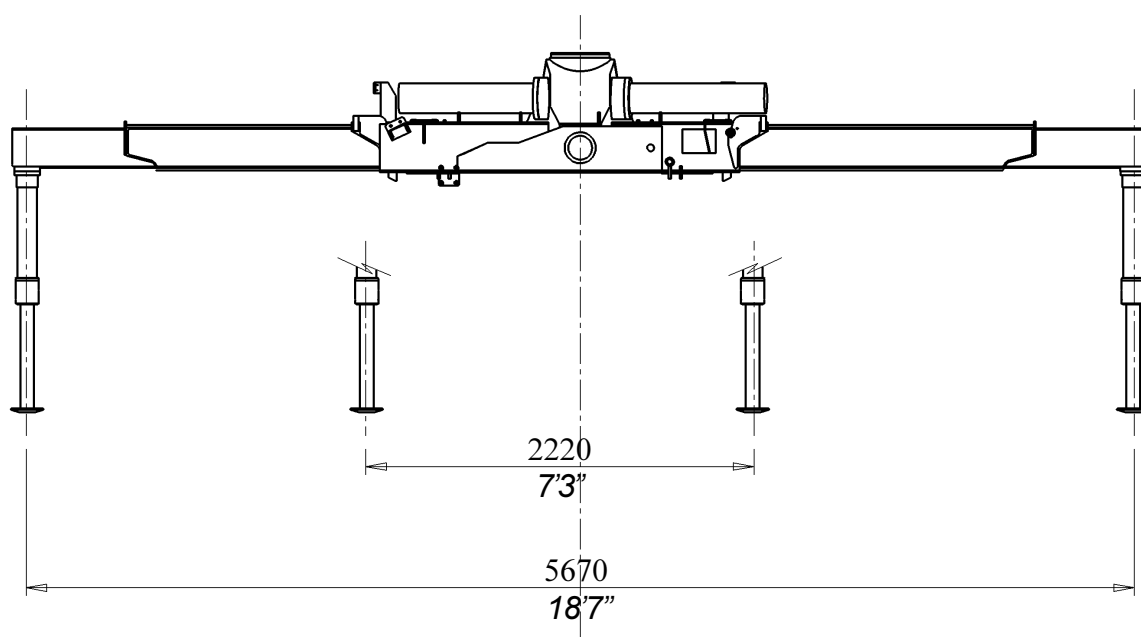

Fig.6-2
6.4 BRACCI STABILIZZATORI EXTRALARGHI (Fig. 6.2)
6.4 OUTRIGGERS BOOMS IN EXTRA LARGE VERSION (Fig. 6.2)